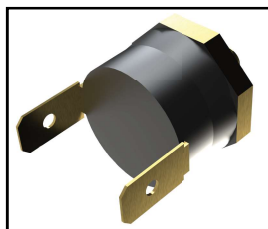

**Figure 24**
1. Locate the high-limit thermostats (see Figure 24).